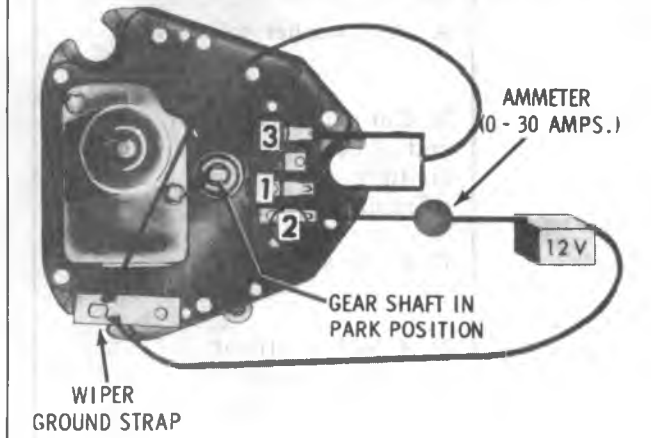

Fig. 8-42-Jumper Wire Connections
3. Disconnect wiring harness from wiper and try operating wiper as shown in Figure 8-42.